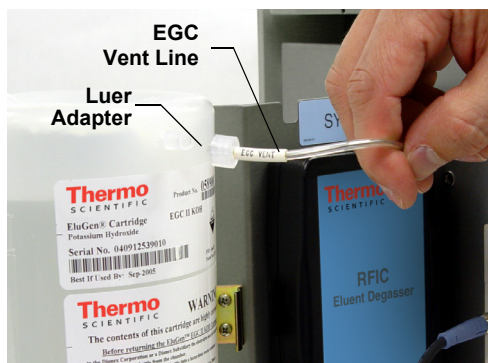

Figure 10-17. Analytical Dionex EGC Vent Line (Standard-Pressure Cartridge Shown)
- a. Remove the **VENT** line from the Dionex EGC by unscrewing the 10-32 luer adapter (see Figure 10-17).
3. Turn the cartridge upside down and place it on the EG drip tray in the service position (see Figure 10-17).
- Connect the **VENT** line removed from the old cartridge to the vent opening in the new cartridge (see Figure 10-17).